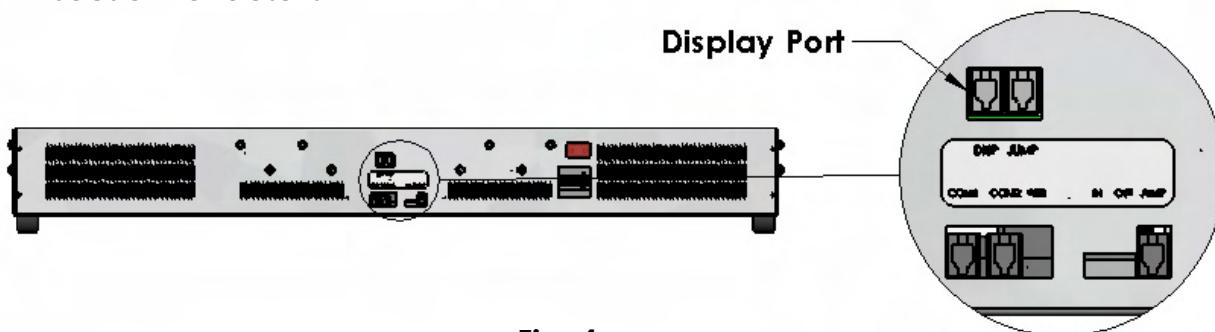

Fig. 4
STEP 6. Locate black timer wire coming from bottom of the bench. Plug the black timer wire into the display port on front of the ballast tray. (Fig.4) See timer section for details.